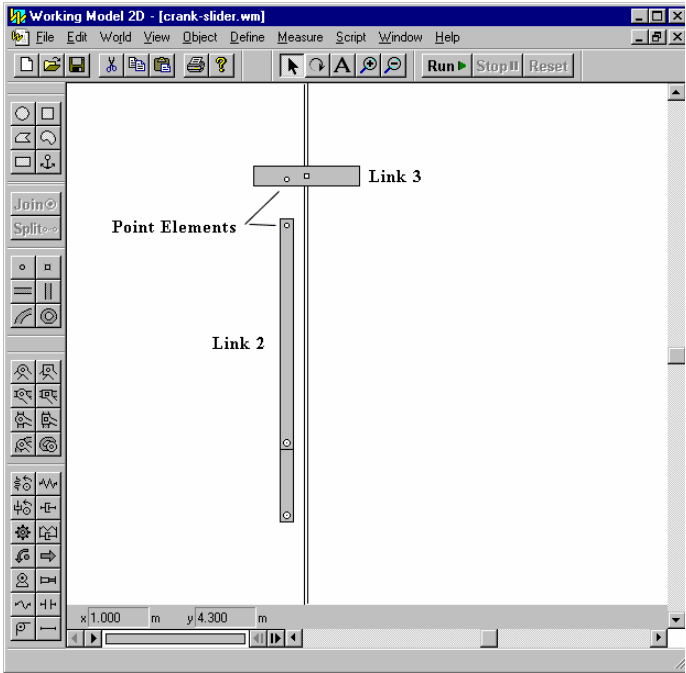

Figure 18. Crank slider example, Step 6.
6. Now add point elements to the end of link 2 and to link 3, Figure 18.